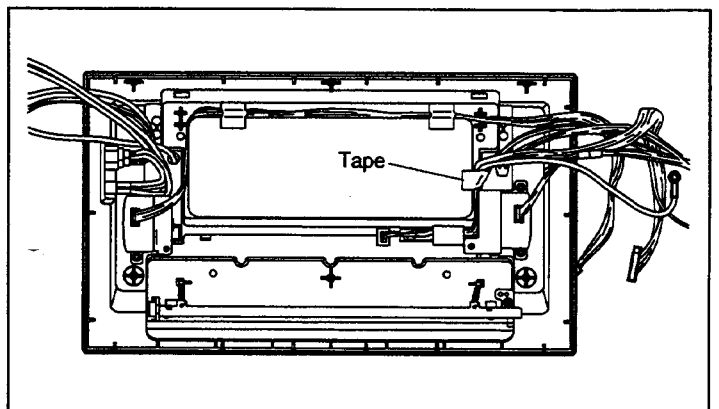

Fig. 5-12
- 4) Remove the tape shown in Fig. 5-12.